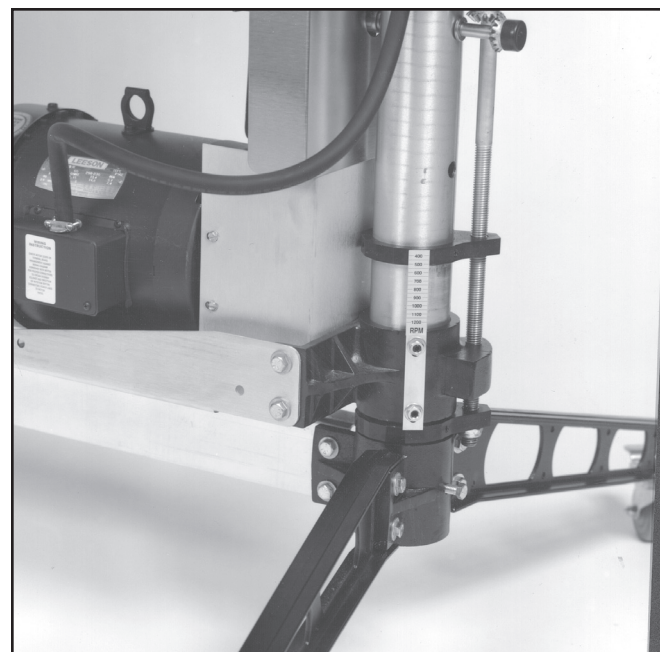

Fig. 8 Brush RPM gauge.
The RPM gauge (Fig. 8) displays the brush speed and is read where the scale intersects the top of the screw support casting. To calibrate the gauge, lower the motor to the lowest position. Loosen both hex nuts while holding set screws. Position the RPM scale so that "400" RPM intersects the top of the screw support casting (Fig. 8). Tighten hex nuts to hold gauge in this position.
7. Gradually increase brush speed until the desired finish is achieved (Fig. 8).